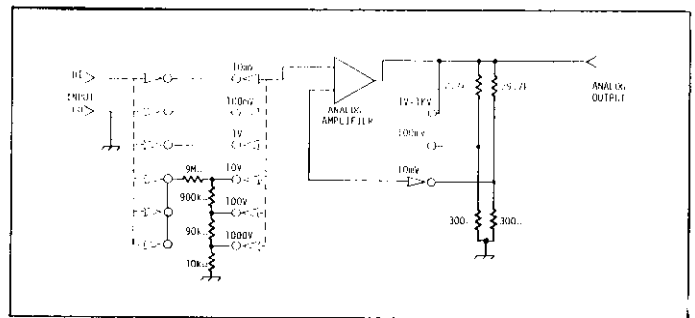

FIGURE 13. Voltmeter Configuration.
1. DCV. When this mode is selected the input III is connected thru a divider to the analog amplifier input. The divider is used on the 10V, 100V, and 1 kV ranges. The divider ratios are 1/10, 1/100, and 1/1000 respectively to give a 1 volt input to the analog amplifier. See Figure 13.